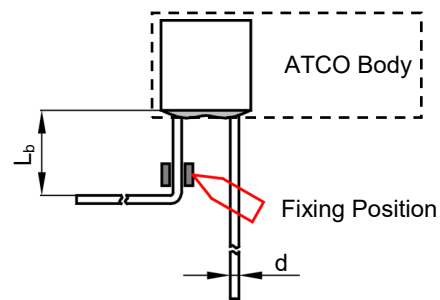

FIGURE TM-2
2. When bending leads, please use pincher or similar tools to fix the product as shown in Fig.TM-2, to avoid damaging the product.